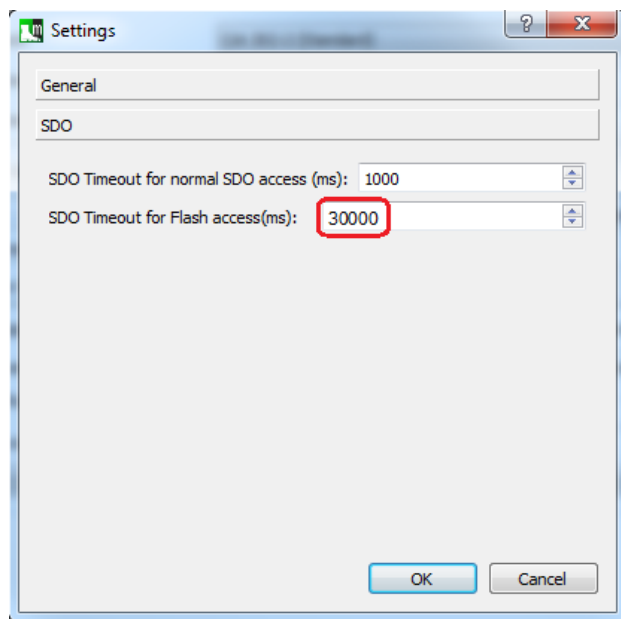

Figure 5 “Settings, Options, SDO”
**Remedy** Increase the time for access. See Figure 5 on page 4.